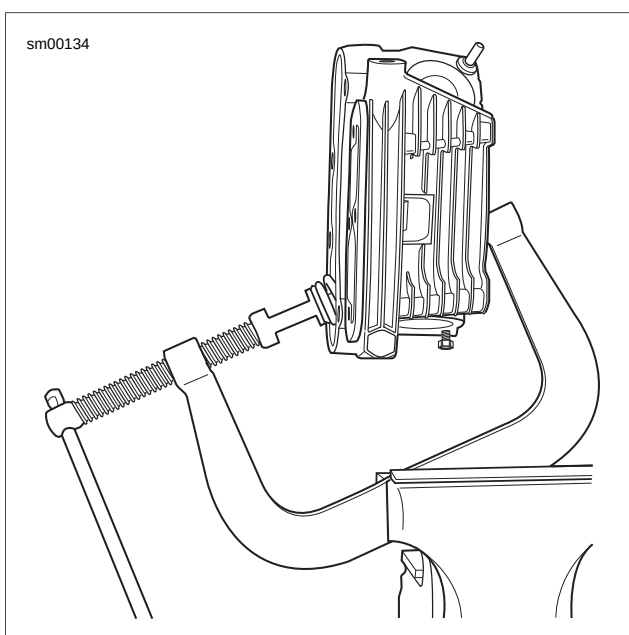

Figure 3-64. Valve Spring Compressor
9. See Figure 3-64. Compress spring with VALVE SPRING COMPRESSOR (Part No. HD-34736B).